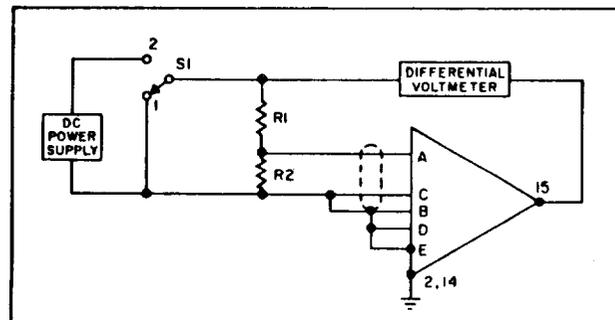

Figure 6-11. Gain Accuracy Test Circuit ($G > 1$)
- 1) Connect the amplifier as shown in Figure 6-11. Use R2 = 10 ohms $\pm .01\%$ with the standard